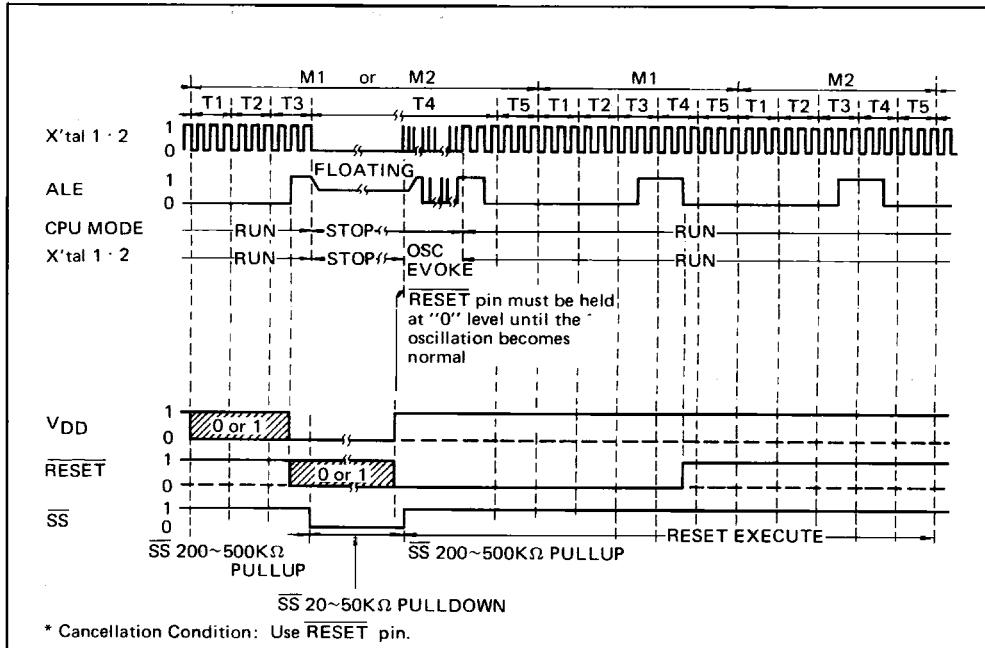

Fig. 4-5 Hardware Power-Down Mode Timing Chart
- The clock generator is activated and the CPU started up when a "1" level is applied to the VDD pin while a "0" level is input to the RESET pin. If this "0" level is kept applied to the RESET pin until oscillation become stable, the CPU will be reset and will start executing from address 0. The timing chart is outlined in Fig. 4-5.
- (2) Use of the INT pin during external interrupt enabled status (i.e. following execution of EN I instruction)